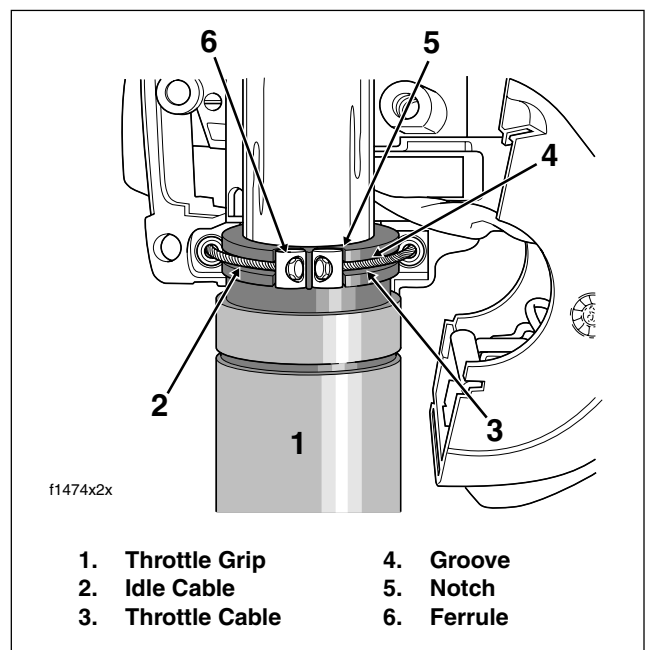

Figure 1-18. Remove Throttle/Idle Cables
4. Remove the brass ferrules from the notches on the inboard side of the throttle grip. Remove the ferrules from the cable end fittings. See Figure 1-18.
11. Position the lower switch housing beneath the throttle grip. Install the brass ferrules onto the cables so that the end fittings seat in the ferrule recess. Seat the ferrules in their respective notches on the throttle grip. Verify that the cables are captured in the grooves molded into the grip. See Figure 1-18.